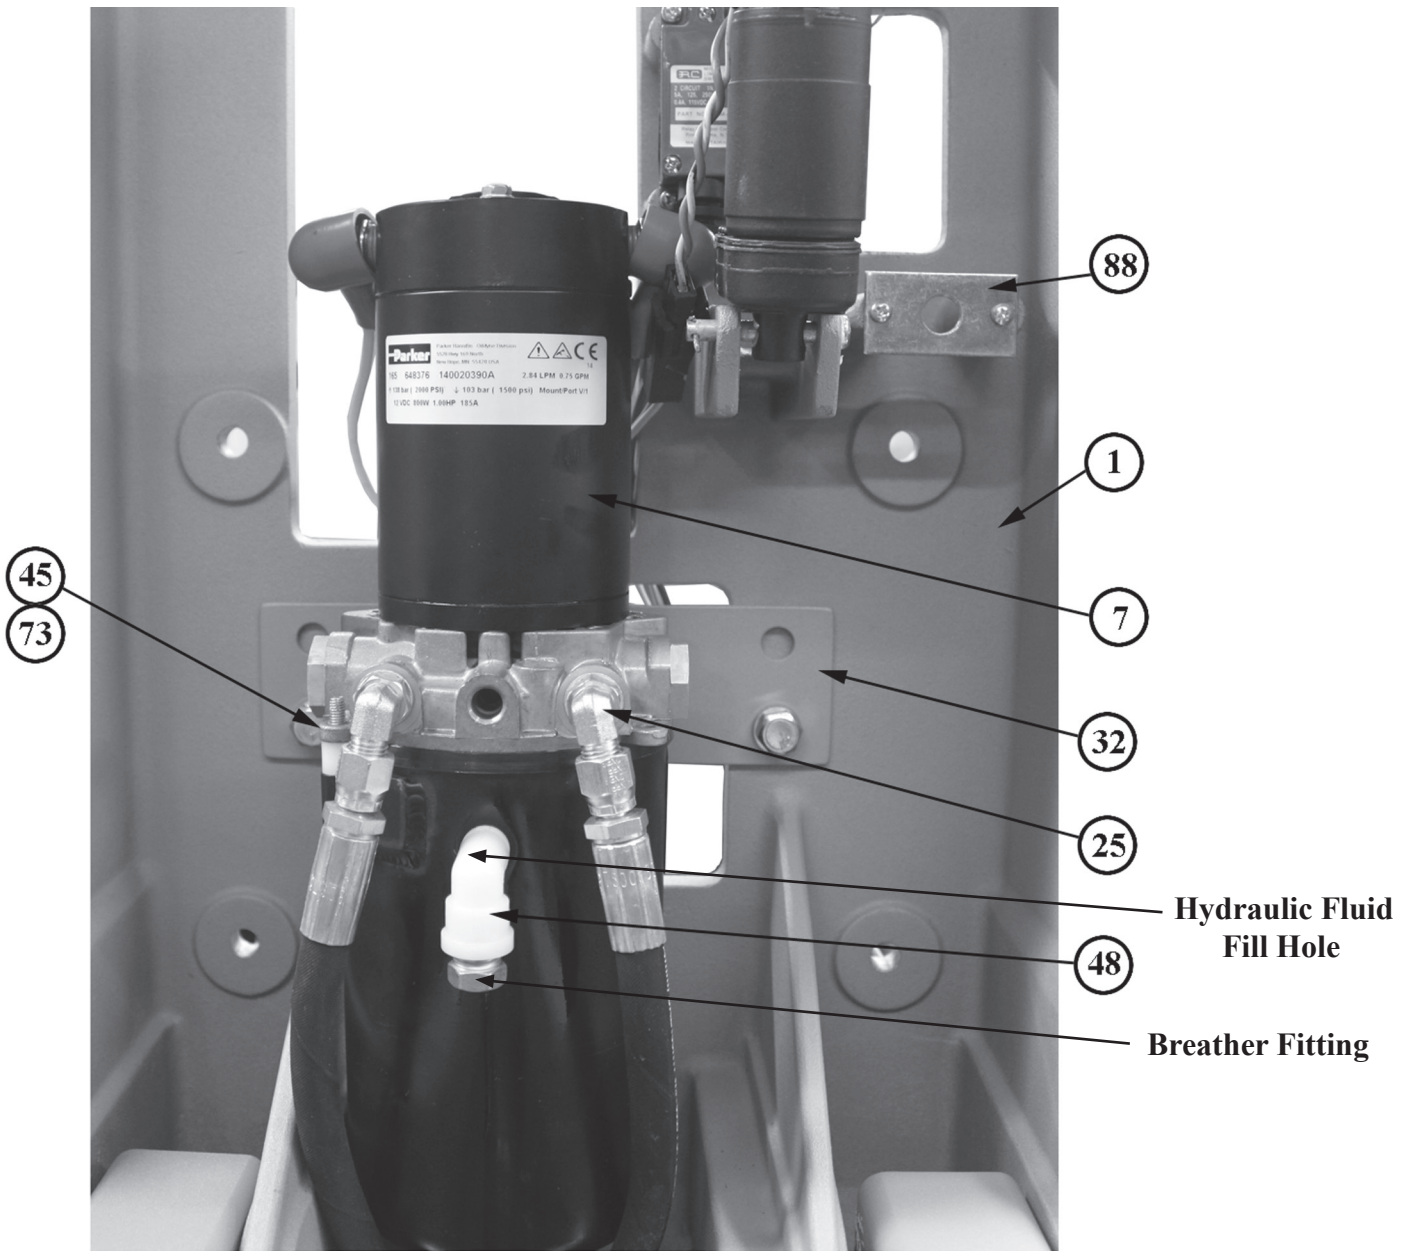

FIGURE 22
4. Take note and tag the order of the hydraulic lines that are attached to elbow (25) before removal. Slowly disconnect the hydraulic lines from the elbows (25) on the front side of the pump. See Figure 22.
5. Remove the plastic breather elbow (48) with the breather, if new ones are not supplied, from the power unit. See Figure 22.